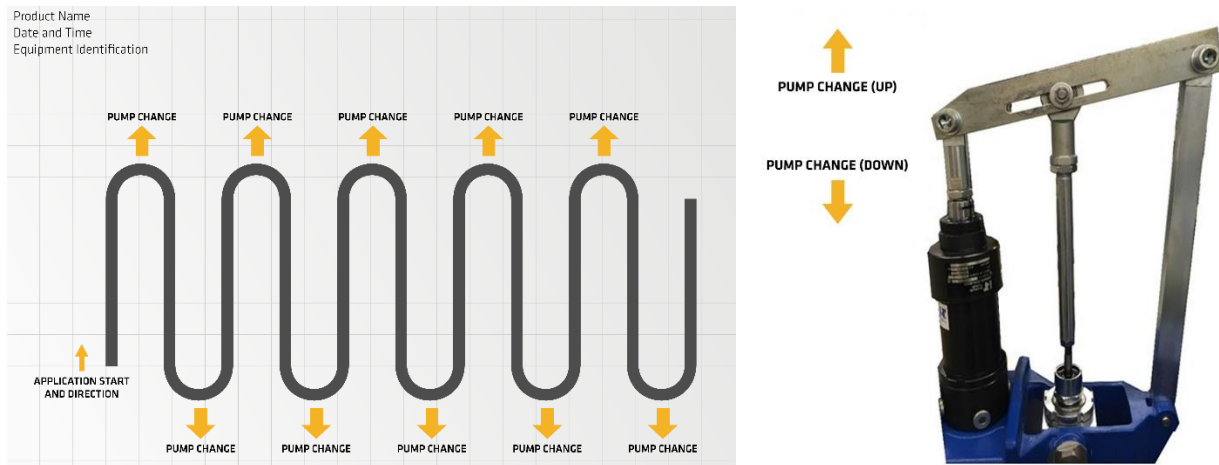

Figure 8: Schematic, application of snake test
1. Apply a continuous “snake-shaped” bead at least 10 mm thick of 2-component Sikasil® IG adhesive on a cardboard. Allow the pump to extrude for an amount of adhesive equivalent to at least 5 times the volume of A-component pump. Both the pump change on the top position (pump change up) and the pump change on the bottom position (pump change down) must be recorded on the sample as shown on the picture above (c.f. Figure 8). When the pump change occurs, the equipment releases an audible sound, and the applicator should turn the direction on the bead giving it the characteristic “S” shape like a snake.